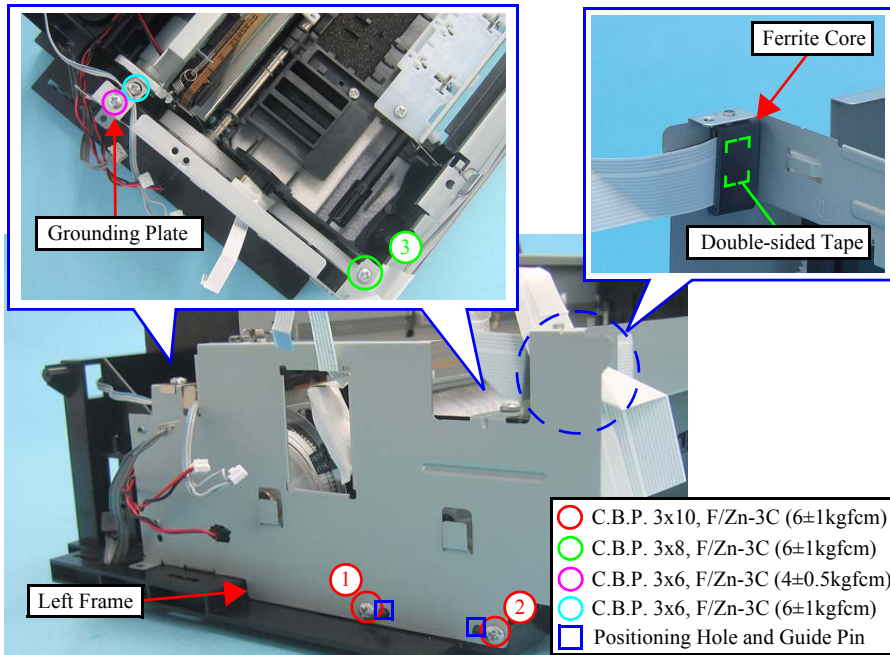

Figure 4-51. Removing the Left Frame
- When installing the Left Frame, align the guide pins (x2) of the Base Frame with their positioning holes (x2) of the Left Frame as shown in Figure 4-51.
When installing the Left Frame, attach the ferrite core to the location shown in Figure 4-51.
- Tighten the screws in the order given in Figure 4-51.